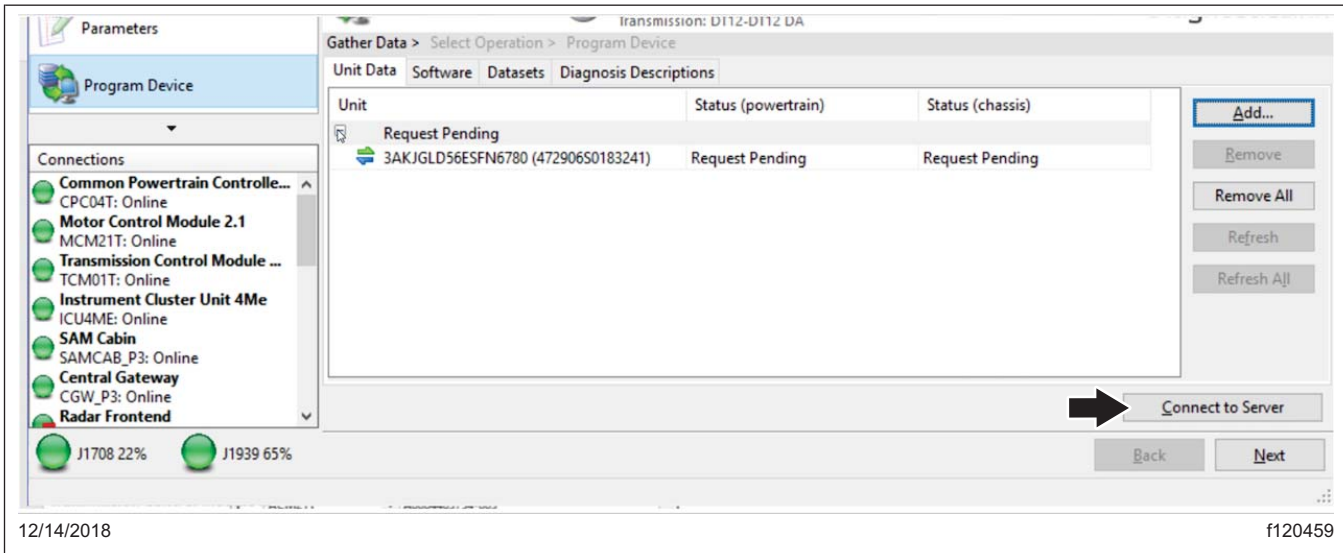

Fig. 6, Downloading Updated Unit Data
- There should be a request pending status for the VIN. Click "connect to server" to download the updated unit data. See Fig. 6. The server will provide any new software available on the server as well as updated parameter sets for the new software, adjusted for the parameter set that was just uploaded from the vehicle.